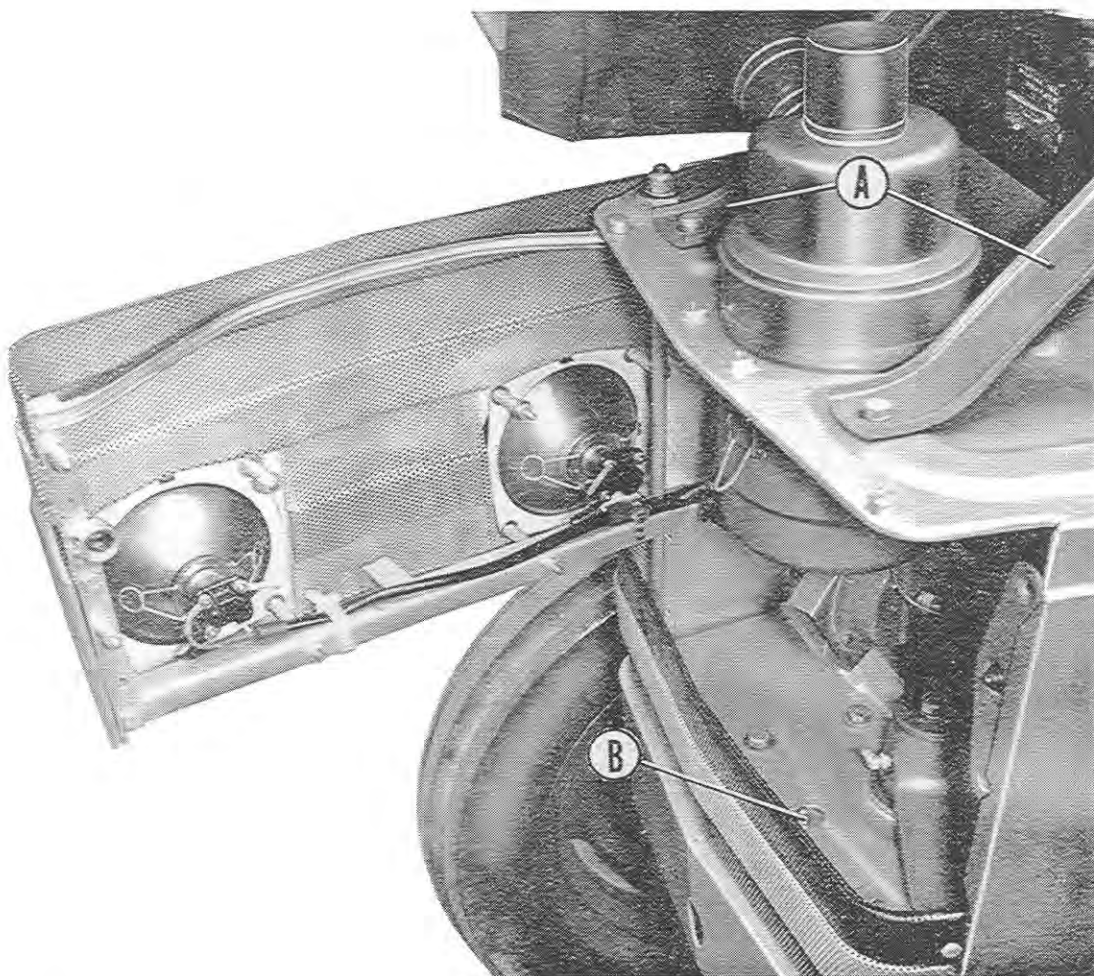

Fig. 3
- 5) Remove the grease nipple from the front axle pivot pin (Fig. 3 - B).
**NOTE:** Where removal of the grille is to be followed by the removal of the Radiator it is necessary to uncouple the support plates (Fig. 3 - A) from the fuel tank (4 bolts) and not as indicated in (6) above.